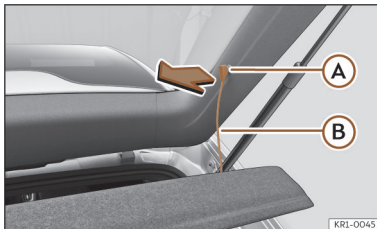

Fig. 165 In the boot: removing and installing the shelf.
- Detach the cord loops >>> **Fig. 165 (A)** from their hooks **(A)**.
- Attach the securing straps >>> **Fig. 165 (B)** onto the rear lid.